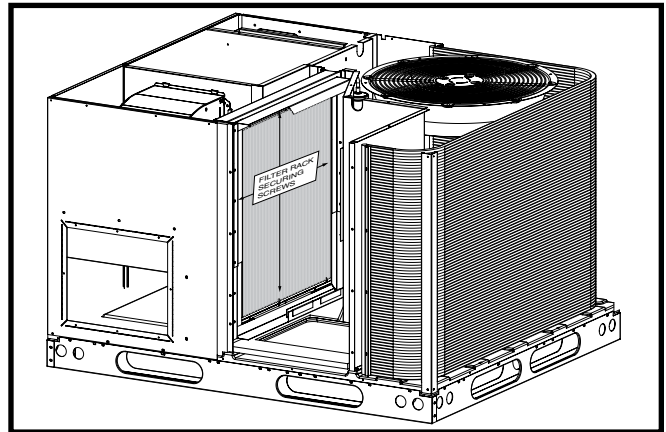

Figure 7. Internal Filter Rack Location
3. Remove (1) screw securing the assembly to the coil located on the left leg of the rack. **NOTE:** The assembly can now be easily collapsed and removed from the unit. See Figure 7 for filter rack securing screw locations.